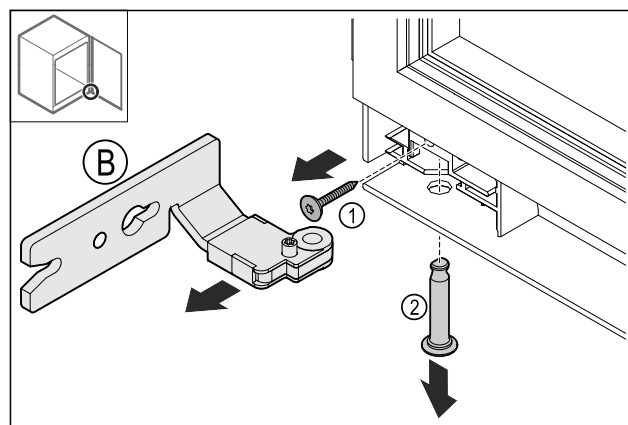

Fig. 14
- Remove the screw Fig. 14 (1).
- Remove the pin Fig. 14 (2).
- Remove the hinge Fig. 14 (B).